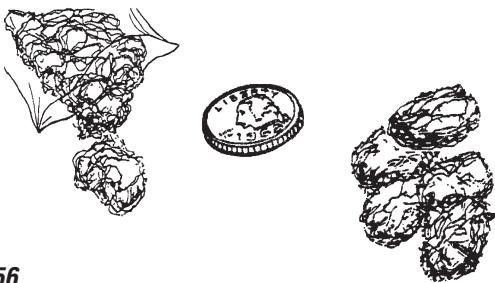
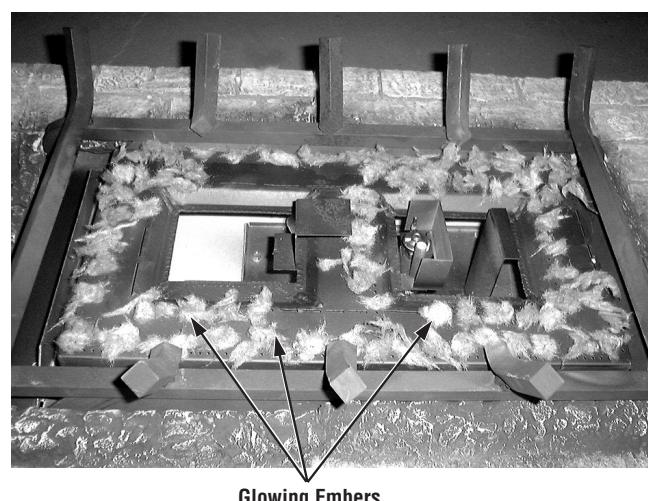

Figure 56
Figure 57
Separate the Embers (rockwool) into pieces about the size of a quarter (see **Figure 56**). Keep the pieces fluffed up, not matted. Distribute these pieces over the surface of the burner, as shown in **Figure 57**. Do not use more than is necessary. Ensure that the main burner ports remain uncovered by the ember material.
7. **Install Vermiculite** - Place some vermiculite on the firebox floor around the grate (the entire bag of vermiculite will NOT be used). See **Figure 57**. **DO NOT PLACE ANY VERMICULITE ON THE BURNER.**